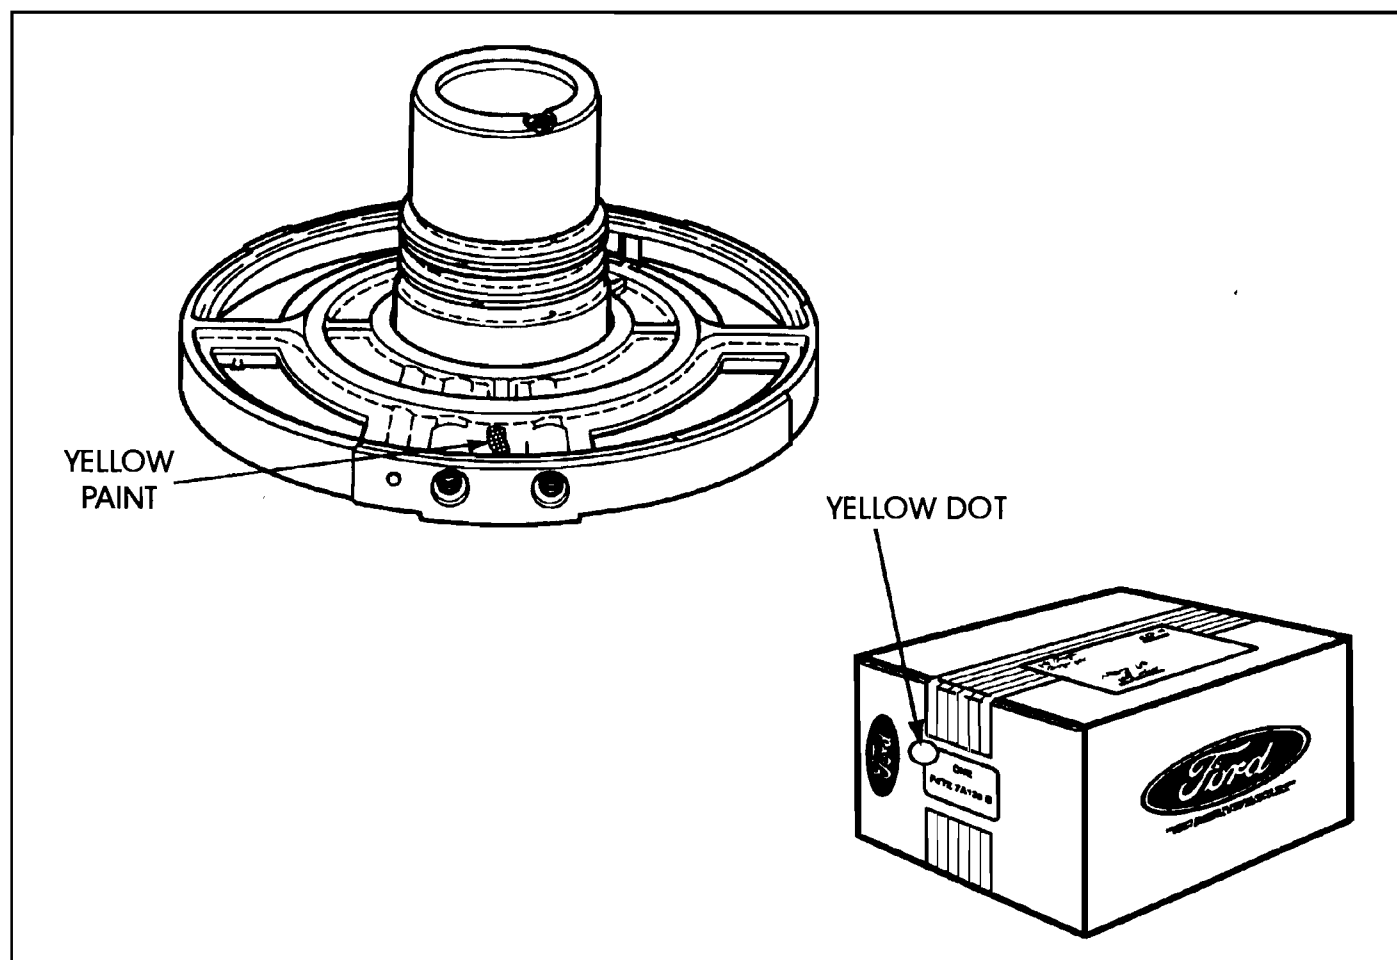

Figure 1
**CORRECTION:** Install a new Center Support Service Kit, F4TZ-7A130-B, that has yellow paint on the wide leg of the center support as shown in Figure 1, and a yellow dot on the shipping carton as shown in Figure 1. There was no part number change and Ford has since recalled and reboxed the defective part.